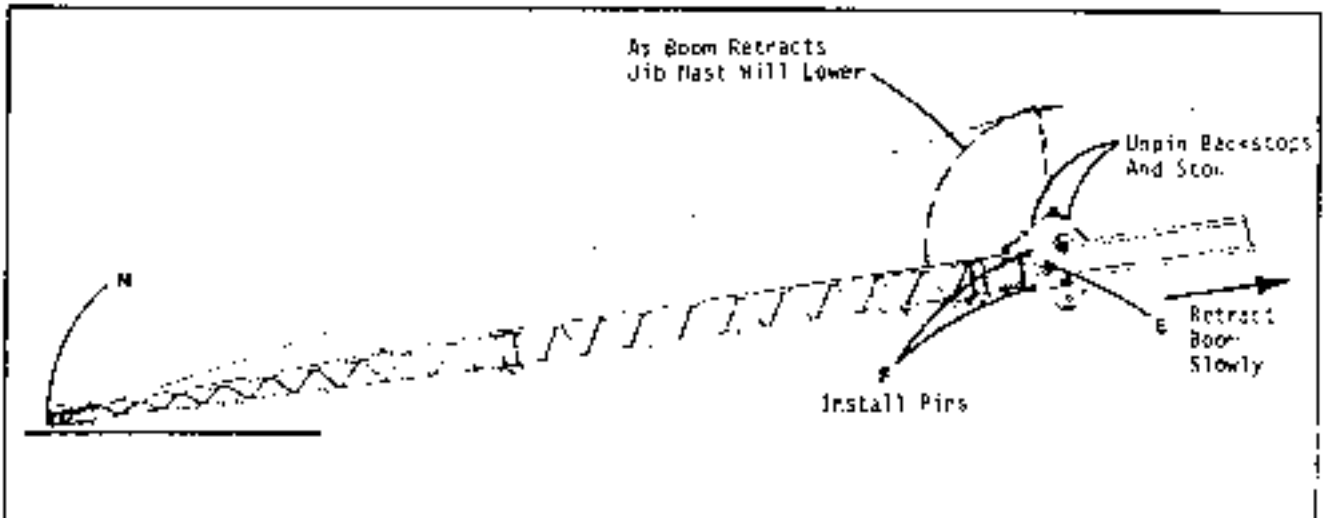

Fig. 4-29 Starting Jib Stowage
- Step 1: Fully retract the boom middle section and slowly boom down until the jib head sheave touches the ground. Make sure jib hoist rope is not under the jib peak. Refer to Fig. 4-29.